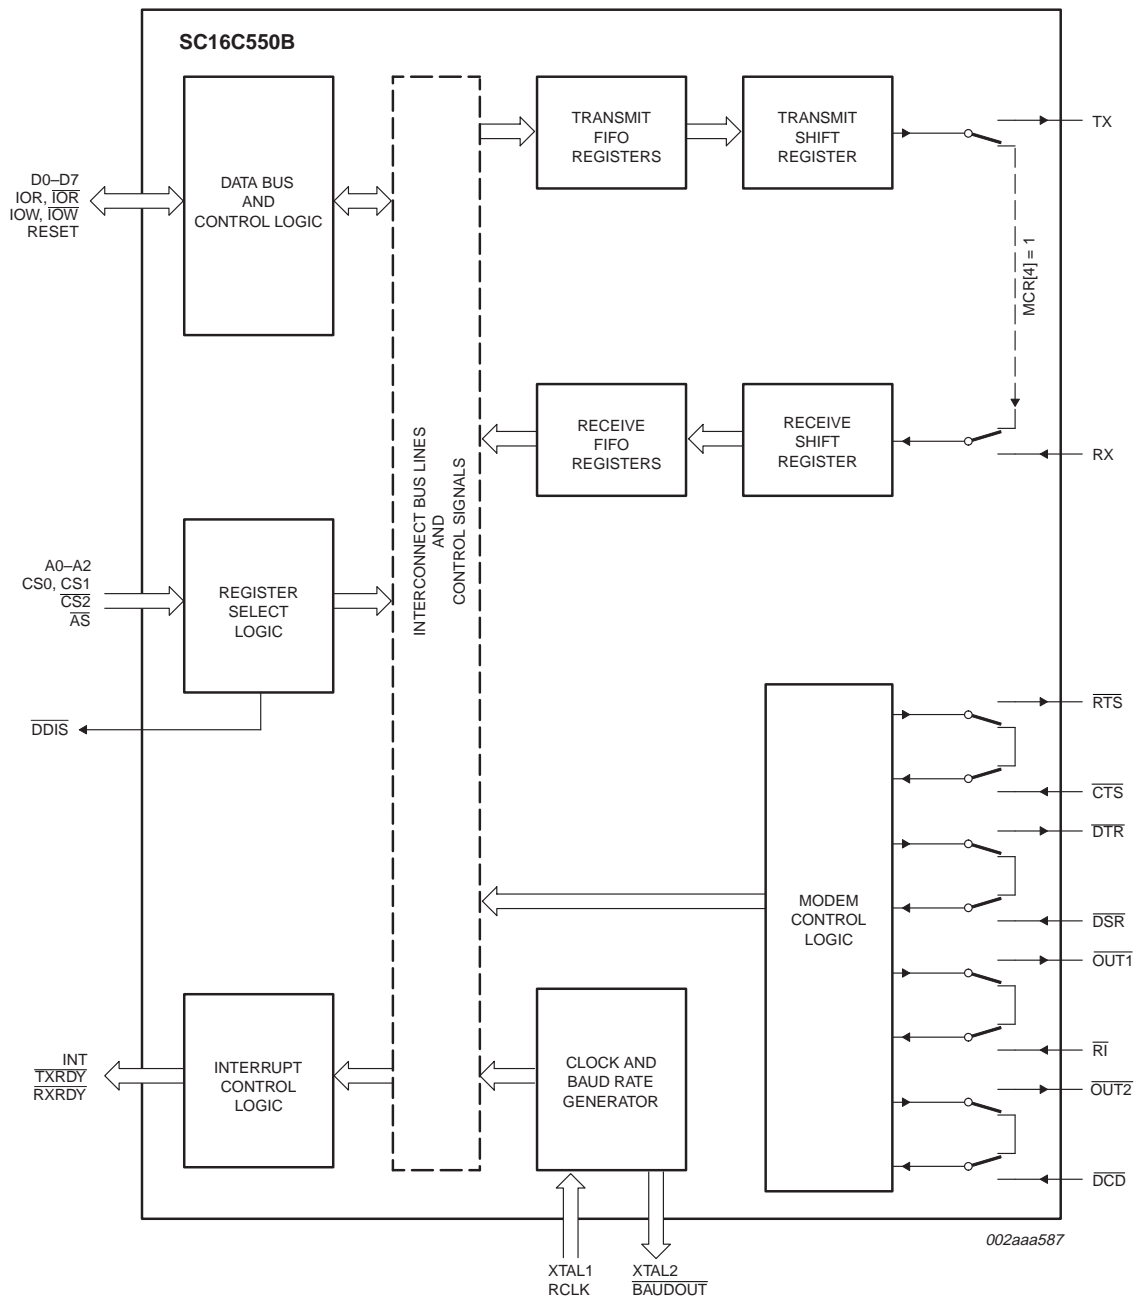

Fig 10. Internal loop-back mode diagram.
The internal loop-back capability allows on-board diagnostics. In the loop-back mode, the normal modem interface pins are disconnected and reconfigured for loop-back internally. MCR[0:3] register bits are used for controlling loop-back diagnostic testing. In the loop-back mode, OUT1 and OUT2 in the MCR register (bits 3-2) control the modem  $\overline{\text{RI}}$  and  $\overline{\text{DCD}}$  inputs, respectively. MCR signals  $\overline{\text{DTR}}$  and  $\overline{\text{RTS}}$  (bits 0-1) are used to control the modem  $\overline{\text{CTS}}$  and  $\overline{\text{DSR}}$  inputs, respectively. The transmitter output (TX) and the receiver input (RX) are disconnected from their associated interface pins, and instead are connected together internally (see Figure 10). The  $\overline{\text{CTS}}$ ,  $\overline{\text{DSR}}$ ,  $\overline{\text{DCD}}$ , and  $\overline{\text{RI}}$  are disconnected from their normal modem control input pins, and instead are connected internally to  $\overline{\text{DTR}}$ ,  $\overline{\text{RTS}}$ ,  $\overline{\text{OUT1}}$  and  $\overline{\text{OUT2}}$ . Loop-back test data is entered into the transmit holding register via the user data bus interface, D0-D7. The transmit UART serializes the data and passes the serial data to the receive UART via the internal loop-back connection. The receive UART converts the serial data back into parallel data that is then made available at the user data interface D0-D7. The user optionally compares the received data to the initial transmitted data for verifying error-free operation of the UART TX/RX circuits.